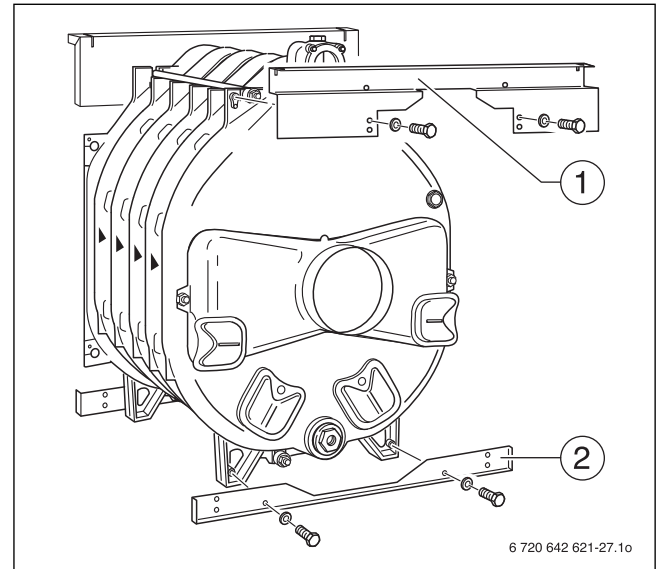

Fig. 33 Fitting the back profile rails
- ▶ Fasten top rear crosswise tie bar (Fig. 33, [1]) to the cast lugs then to rear section with machine screws (M 8 x x 15). The folded edge of the upper crosswise tier bar must point **towards the front**.
- ▶ Screw the bottom crosswise tie bar (Fig. 33, [2]) to the feet of the rear section with two machine screws (M 8 x x 15). The folded edge of the bottom crosswise tie bar must point towards the back.